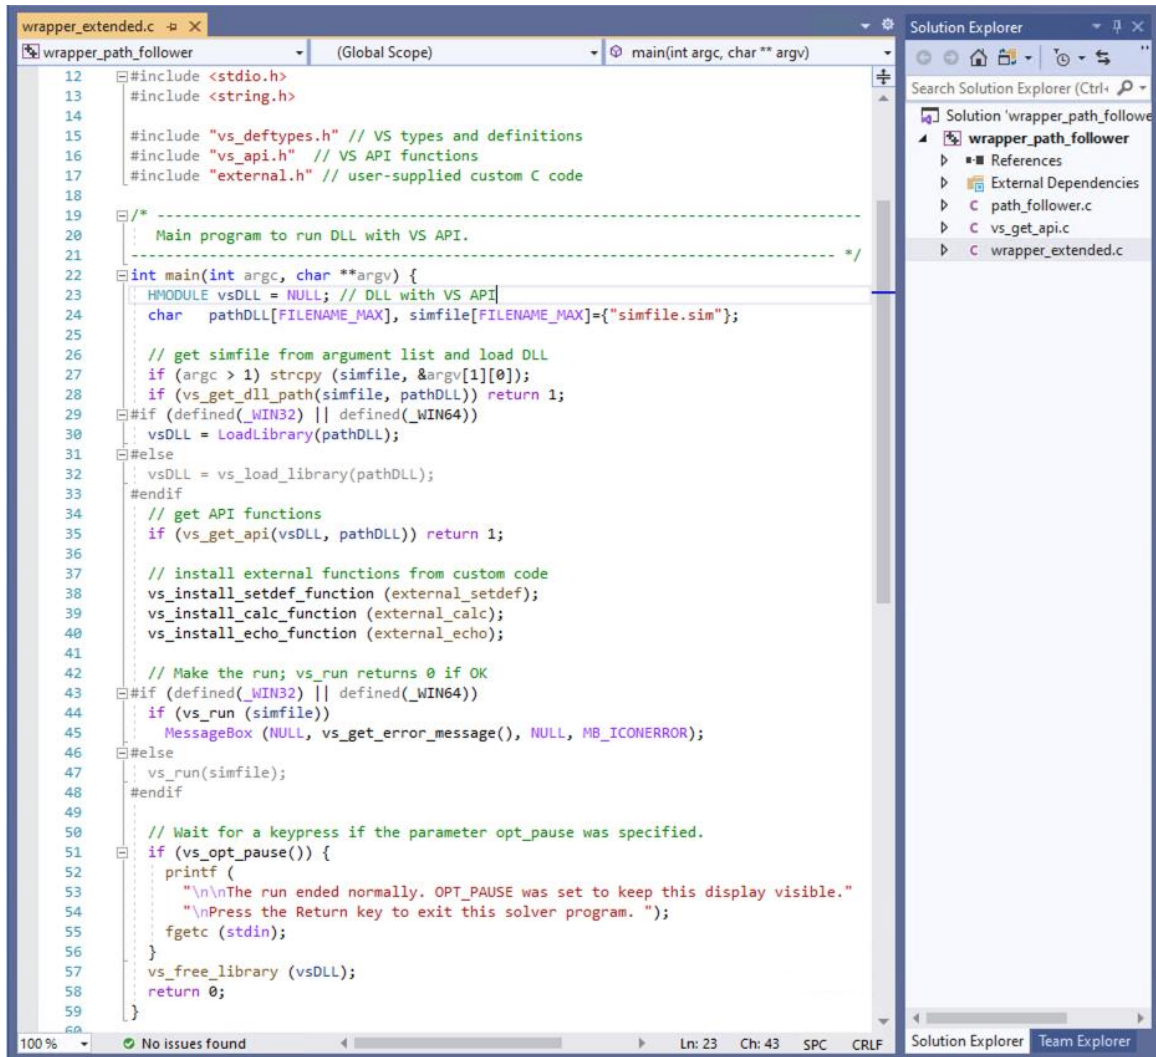
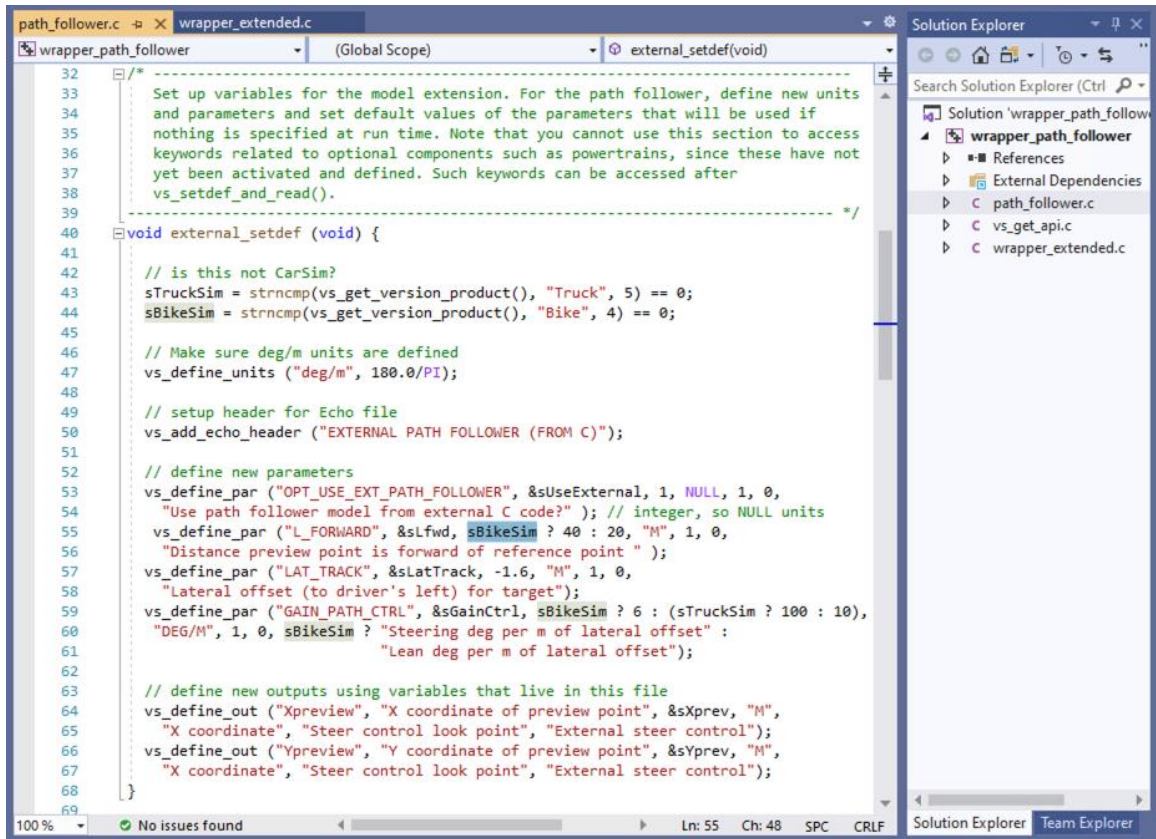

Figure 18. Main program for C wrapper that uses callback functions.
Figure 20. Source code for the function `external_setdef`.
Figure 18 shows C code for wrapper_extended.c. This is much simpler than the previous example; it is similar to the program described in the tech memo *Automating Runs with the VS API*. It also scans a specified Simfile and loads the DLL for the VS Solver (lines 28 and 30), gets the API functions from the DLL (line 35), and uses the API function vs_run to make the simulation and show a popup message if something goes wrong (lines 44 and 45). After handling a possible pause (lines 51 – 56), the DLL is freed and the program exits.
Figure 20 shows part of the source code for external_setdef, the function that defines new variables and links to the variables in the VS Math Model. This is the name that was specified earlier using the API function vs_install_setdef_function (line 38, Figure 18).
- Line 47 (Figure 20) has the API equivalent of the VS Command DEFINE_UNITS, and installs the “deg/m” units for the steering control gain.
- The variables sTruckSim and sBikeSim are used to provide alternative arguments using the inline C form *cond ? opt1 : opt2*. For example, in line 55 the default value for BikeSim is 40; otherwise it is 20. Line 59 shows different values being set for BikeSim (6), TruckSim (100), and CarSim (10). Lines 60 and 61 show alternative descriptions for the parameter GAIN_PATH_CTRL.